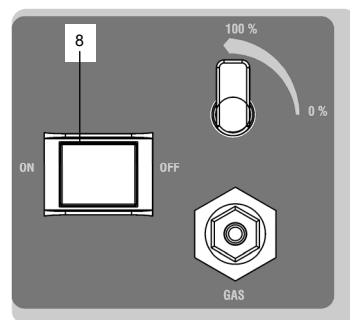

Fig. 4.1.2
All the following functions and adjustments must be performed with the machine powered (main switch ref. 8 fig. 4.1.2 in position ON) and the board switched to OFF (the display will intermittently read OFF and the DATE and TIME).